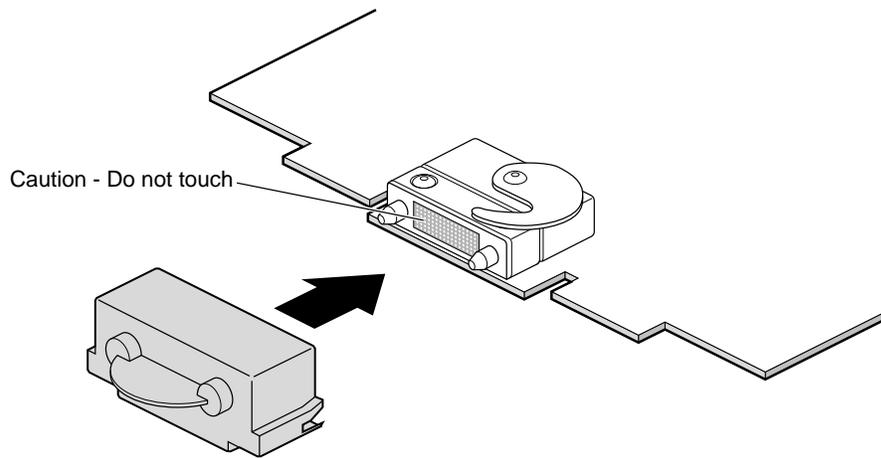

Figure 2-10 Placing the Compression Cap on the Compression Connector
5. Place a cap on each compression connector on the back of the system module, as shown in Figure 2-10 (compression connector caps are included with your workstation.)